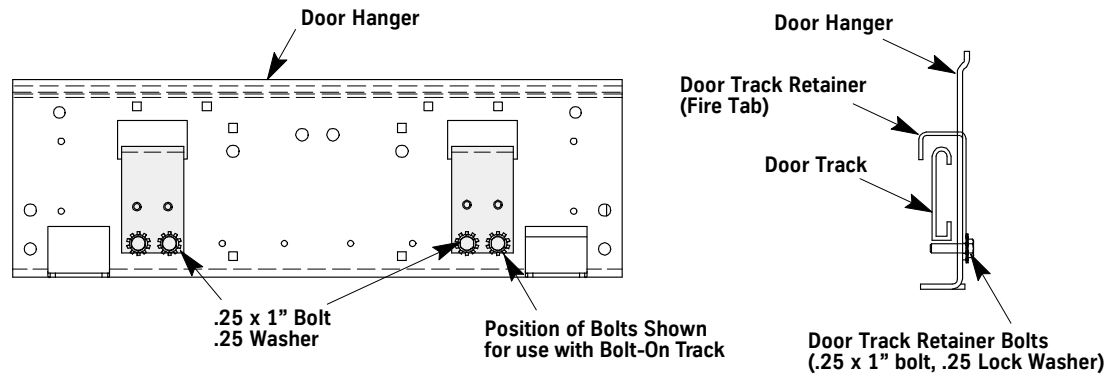

Figure 36 - Door Track Retainers
12. Install the door track retainer (fire tab). See Figure 36.